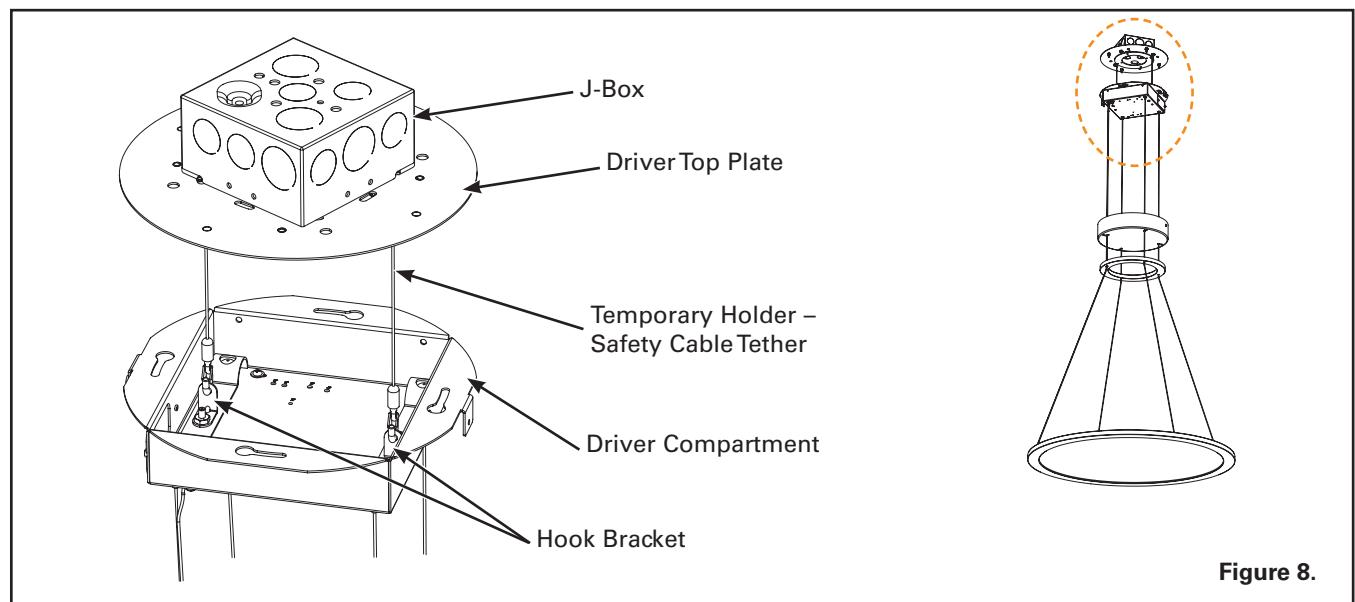

Figure 8.
Step 9. Lift the entire fixture by holding the Driver Compartment and suspend the fixture with the cables from Driver Top Plate. Figure 8
Make the wire connections with the driver (main line connections) with the Wire Nuts given. Figure 8